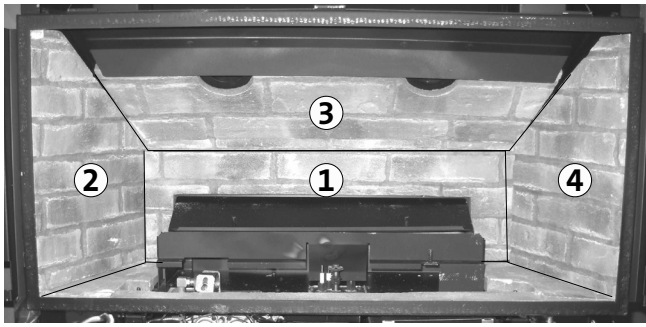

Figure 24. Install brick panels in the order indicated above.
5. Place the Brick panels into position in the numerical order indicated in fig. 24.